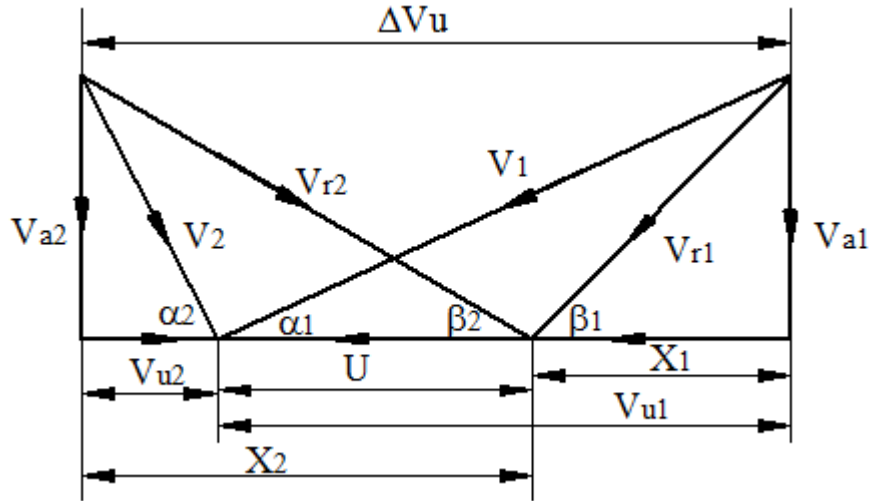

Fig. 3.3 Combined velocity diagram for an axial flow impulse turbine
**Answer:** The combined velocity diagram for an axial flow impulse turbine is as shown in figure 3.3.